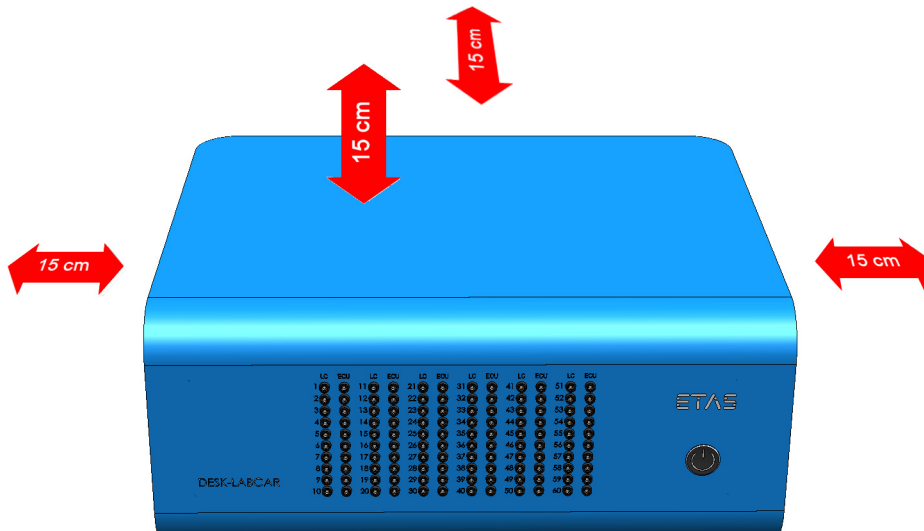

Fig. 3-1 Space around the ES5100.1 Desktop Housing
- Make sure you always adhere to the minimum free space around the housing of 15 cm to the top, back and sides (see Fig. 3-1).